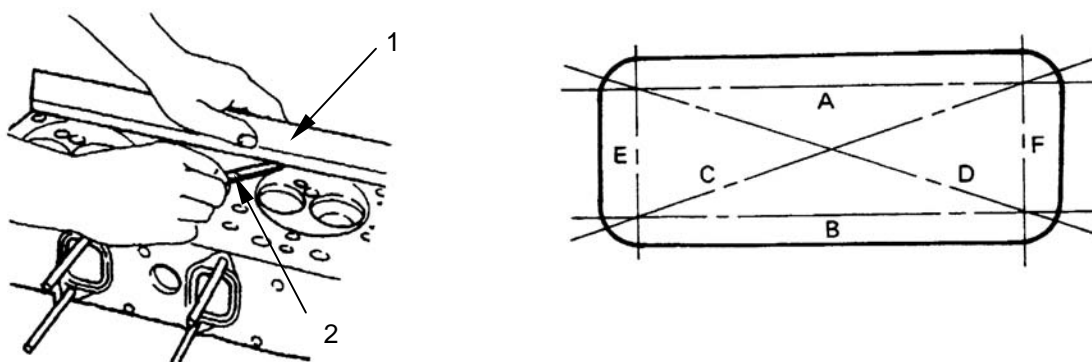

Figure 11. Cylinder Lower Face
- a. Use a straight edge (figure 11, item 1) and feeler gauge (figure 11, item 2) to measure the four sides and two diagonals of the cylinder head lower face.